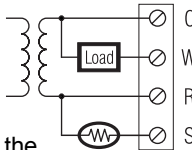

Figure 1: Single unit
- a) **Electric heating (figures 1, 2 and 3)**